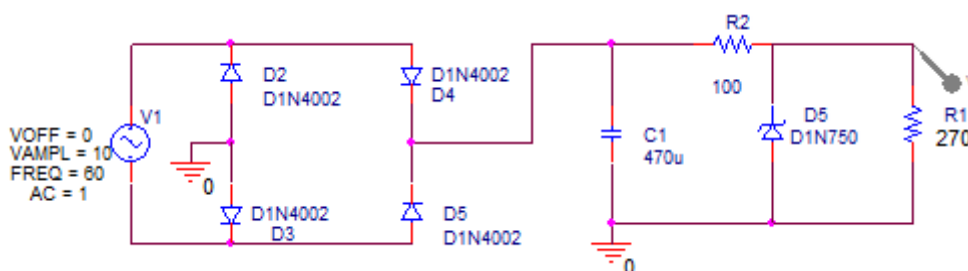

Figure 5.2 Regulated power supply.
15. Add a voltage regulator to your dc supply circuit as shown in Fig. 5.2. Change R₁ back to 4.7 k Ω . Rerun the simulation. *What does the output waveform look like? How is the output voltage level related to V_Z of the Zener diode?*